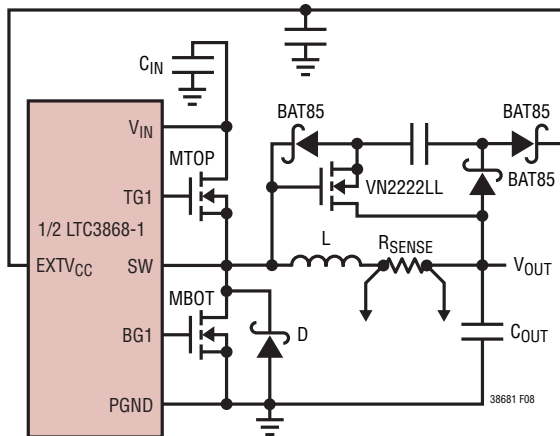

Figure 8. Capacitive Charge Pump for EXT_{VCC}
4. EXT_{VCC} Connected to an Output-Derived Boost Network. For 3.3V and other low voltage regulators, efficiency gains can still be realized by connecting EXT_{VCC} to an output-derived voltage that has been boosted to greater than 4.7V. This can be done with the capacitive charge pump shown in Figure 8. Ensure that EXT_{VCC} < V_{IN}.